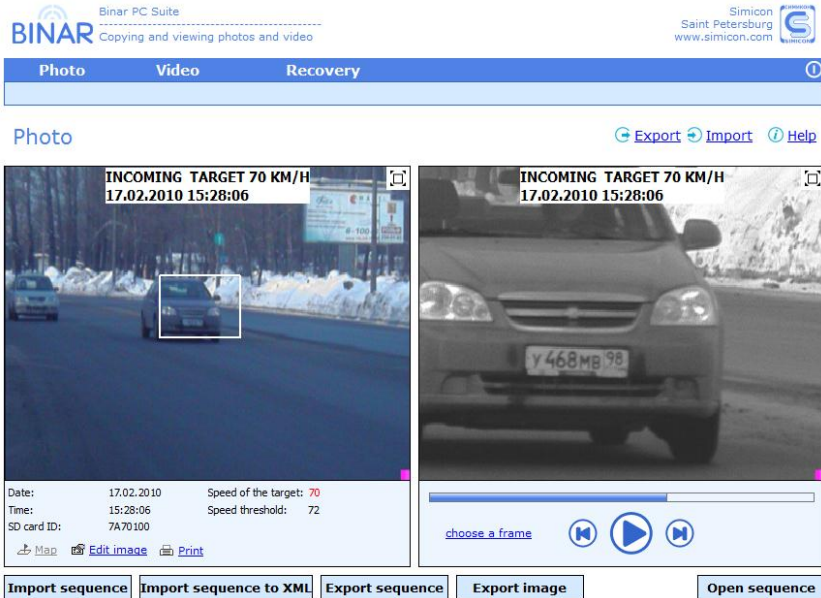
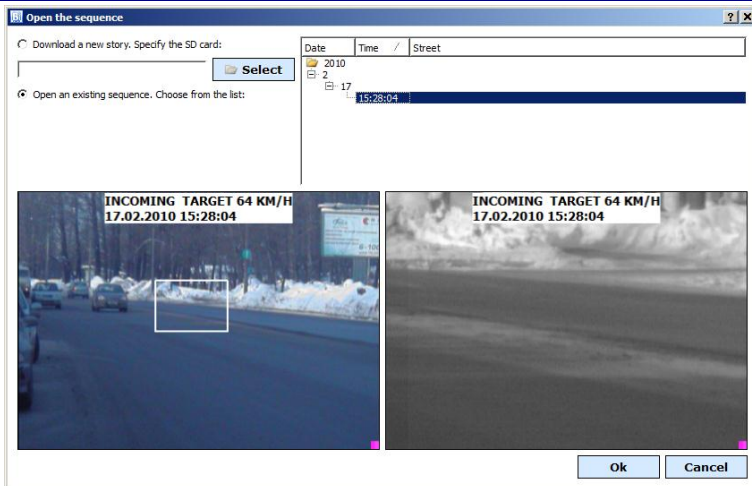

Fig. 3
Fig. 4
- «Photo» — this page (Fig. 3) allows to load, review, adjust and print the frames that were made in the Binar's Work or Photo modes. (Work mode will produce violation clips.)
Pick the necessary sequences from the table in the right part of window. You may sort the records by date, time or street name by clicking on the corresponding column header (see Fig. 4). Click **OK** when you are ready and wait for the pictures from cameras to appear in the main program window (see Fig. 3).